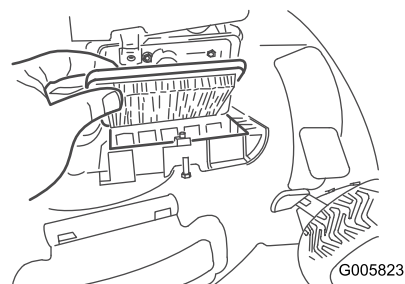

Figure 28
- 2. Replace the air filter (Figure 28).